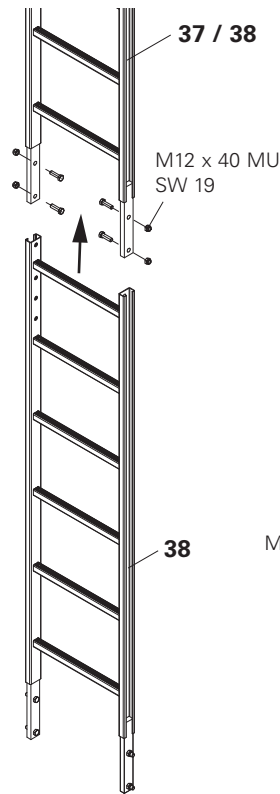

Fig. A2.19
2. Connect both ladders with Bolts and Nuts M12 x 40. (Fig. A2.19)